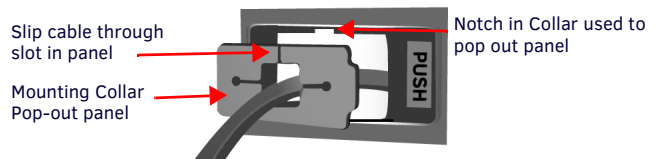

FIG. 9 RCM MOUNTING COLLAR POP-OUT PANEL
- From the top of the mounting collar, press a small flat blade screwdriver into the notch on the split side of the pop out panel and pop it out of place (FIG. 9).